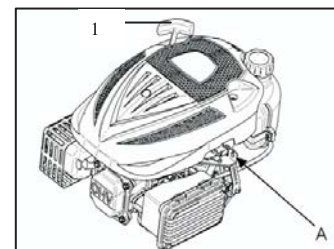

Fig. 3 A. cable hole
Do not allow the starter grip (1) to snap back against the engine. Return it gently to prevent damage to the starter. (Fig.3)